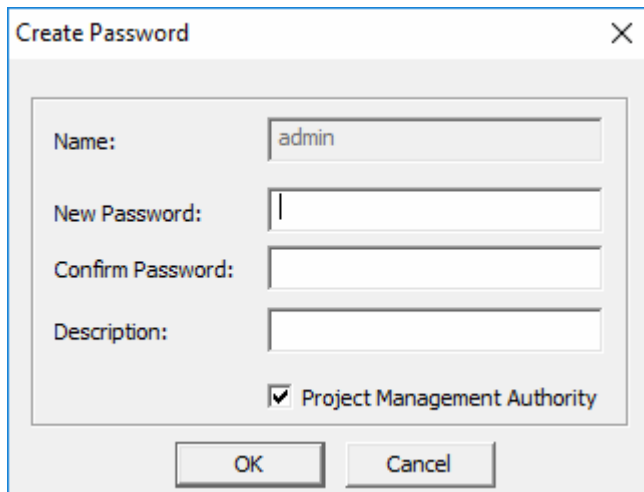

Figure 3-4 Password setting
- Select "Yes" to set the creator password in the dialog box shown in *Figure 3-4*